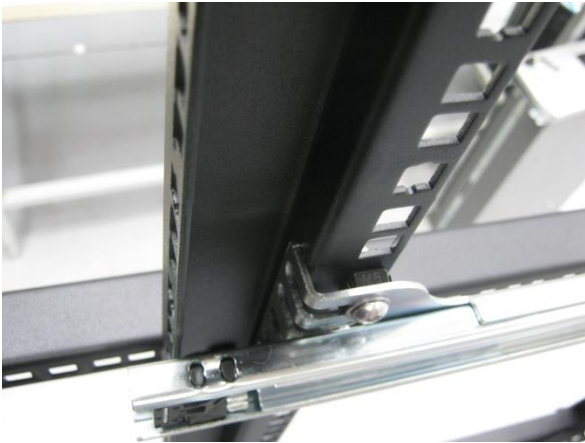

Figure 75 – Attach rear mount adapters to slide
6. Use a spacer (or cage nut) to space the rear claw from the side of the rack and a washer and locknut to secure it (refer to Figure 75).